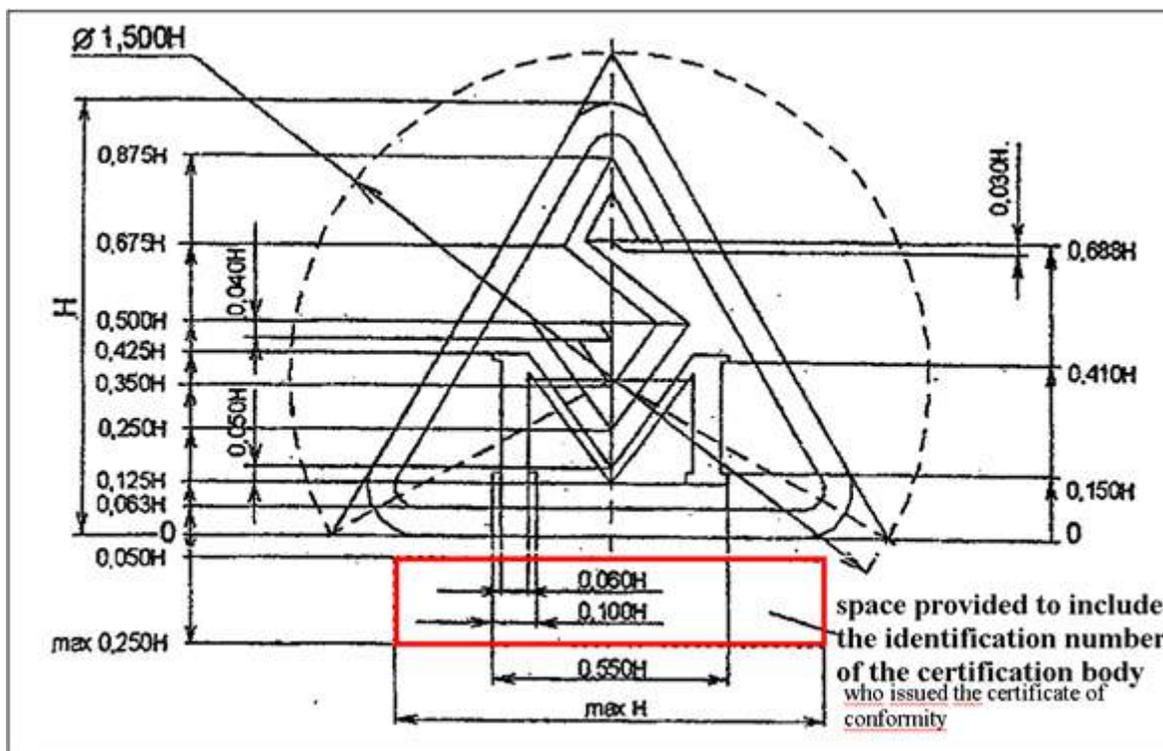

Figure 2. The dimensions of the national conformity label SM
3. The dimensions of the national conformity label SM must correspond exactly to those specified in Figure 2. (